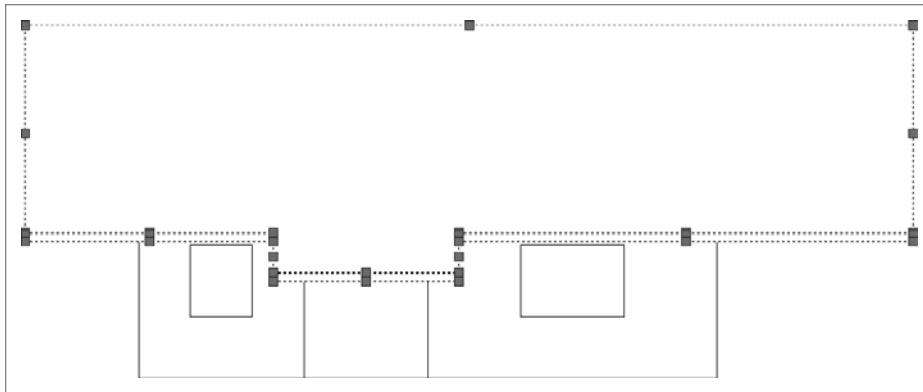

FIGURE 10.16 Assigning the A-ELEV-ROOF layer to the roof objects within the elevation view
1. Select the lines shown in Figure 10.16, and use the layer pull-down found on the Layers panel of the Home tab to assign the A-ELEV-ROOF layer.